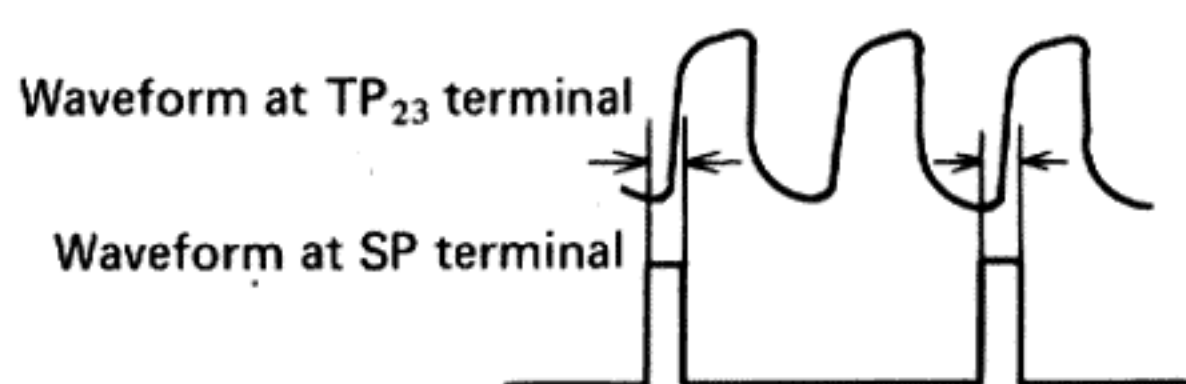

Fig. 13
1. Observe the output waveforms from SP and TP₂₃ (Fig. 13). (Two output pulses from terminal TP₂₃ will correspond with one pulse from terminal SP.